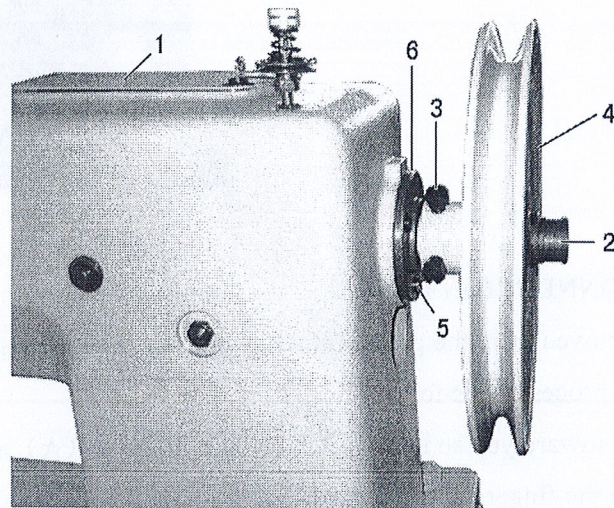

Fig.37
B. Replacement of the connection belt when damaged. (Figs. 37 & 38)
2. Slide the connection belt (A) off from lower and upper belt pulley.
3. Loosen the machine pulley adjustment screw (2) and two set-screws for the machine pulley (3), then remove the machine pulley.
4. Loosen the three screws in the arm shaft bushing (5) and remove the bushing (6).
5. Lift the belt up through the arm cap hole after removed the bushing(6) as far as possible and draw it out through the space normally occupied by the bushing.